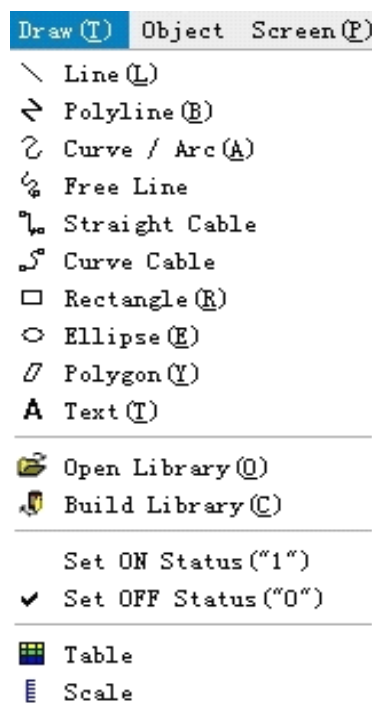

Figure 2-27: Draw menu
“Edit” menu consists of commands used to edit screen, text and drawing as well as some auxiliary commands, including Undo (U), Redo (R), Cut (T), Copy (C), Duplicate (D), Paste (P), Delete (D), Select All (A), Align, Layer, Rotary, Assemble, Mirror, Zoom, Pan View, Grid, Grid Width, Border Scale, The Forward Screen, The Backward Screen, Open Screen Property, Information Output Window, Project Manager, Find Address, and Address Table. Grey commands are invalid under the current environment, and can be used only when the object to be edited is chosen. Some commands in Edit menu are group commands, which are marked with a small triangle on the right side of the line. In addition, each command has a shortcut key. This menu is a drop-down menu, as shown in Figure 2-27.
This menu is mainly used to draw pictures. SamDraw provides Line (L), Polyline (B), Curve/Arc (A), Free line, Straight Connection Line, Curve Connection Line, Rectangle (R), Ellipse (E), Polygon (Y), Text (T), Open Library (O), Build Library (C), Set ON Status, Set OFF Status, Table and Scale. This menu can be also used to open and close tool box. A “√” on the left of the command indicates the tool box has been displayed in the screen. Using picture elements built with the Tool menu, designers can conveniently change the color, text, size and position of these elements. See Figure 2-27.